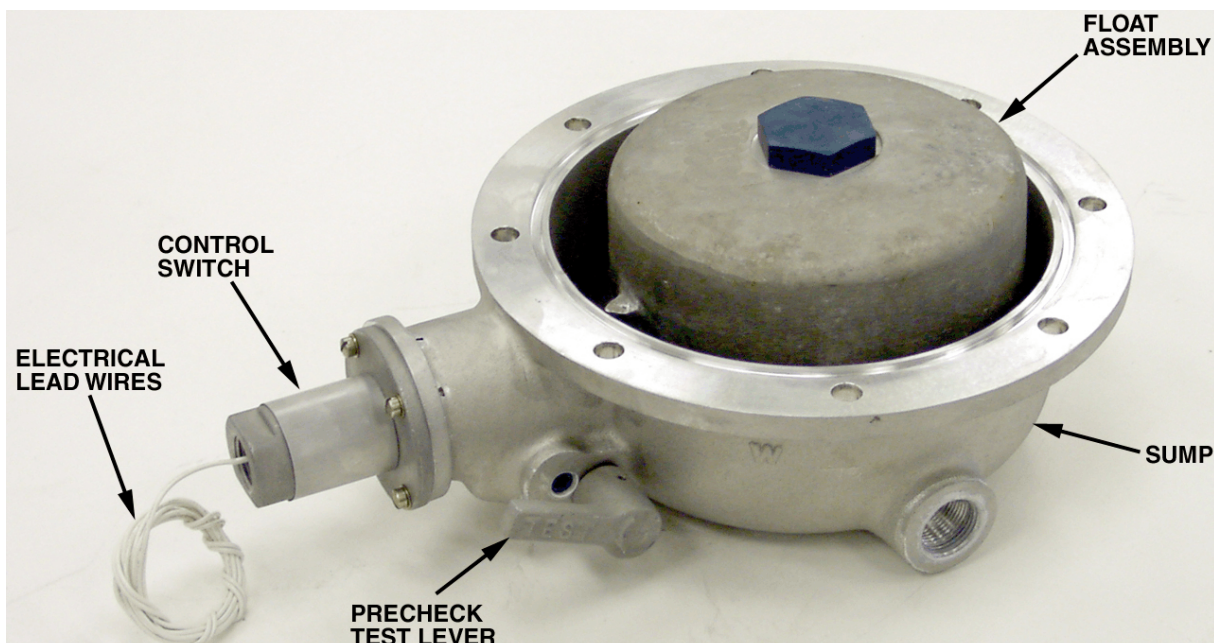
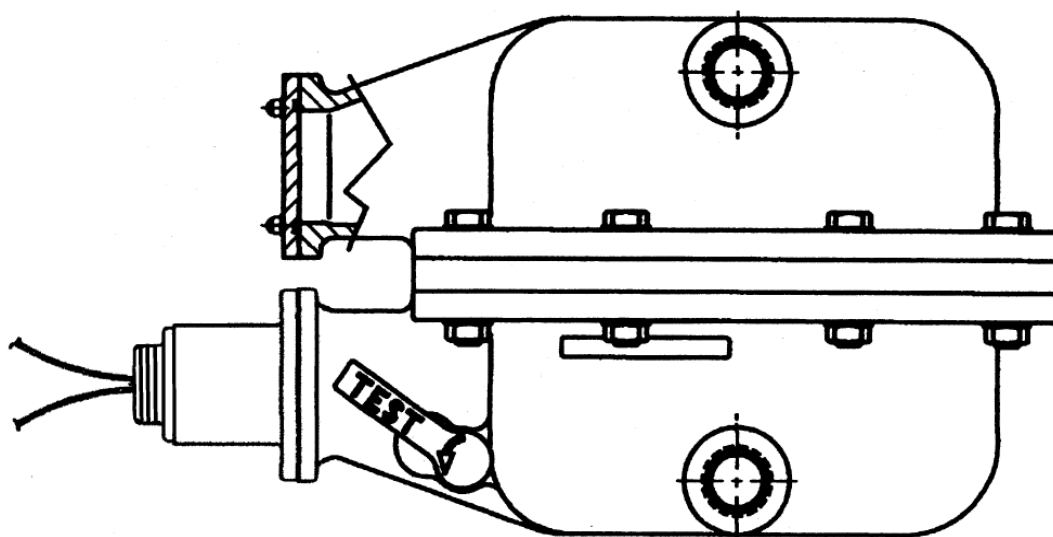

Figure 1. Water Detect Float (with Switch) P/N F599A
Figure 2. Water Detect Float (with Switch and 2nd Sump) P/N F599AB
The Water Detect Float (with Switch) (float) (see Figure 1 and Figure 2) provides the means of detecting free water accumulation in filter/separators, storage tanks and other refueling system components. The major functional components of the float; are the switch, the switch actuating mechanism, the test lever, the float, the sump, and the plunger assembly. The fully enclosed F599AB version (see Figure 2) is designed for remote installation.
2. Disassemble the Water Detect Float (with Switch) (See IPL Figure 1)
- A. (Mod B) Remove screws (40), washers (41), plate (42) and packing (43). Discard packing (43).
- B. (Mod B) Remove screws (44), washers (45), nuts (46), sump (47), packing (48) and spacer (49). Discard packing (48).
- C. Remove and discard packing (2) from packing groove of the sump (39).
- D. Remove screw (3), washers (4 and 5) and cover (6) from the switch housing (17).
- E. Remove screws (9), washers (10), switch (11) and insulator (12) from the switch housing (17). Remove washer (8) and grommet (7) from electrical wires of the switch (11).
- F. Remove (switch adjustment) screw (15) from rod (28).